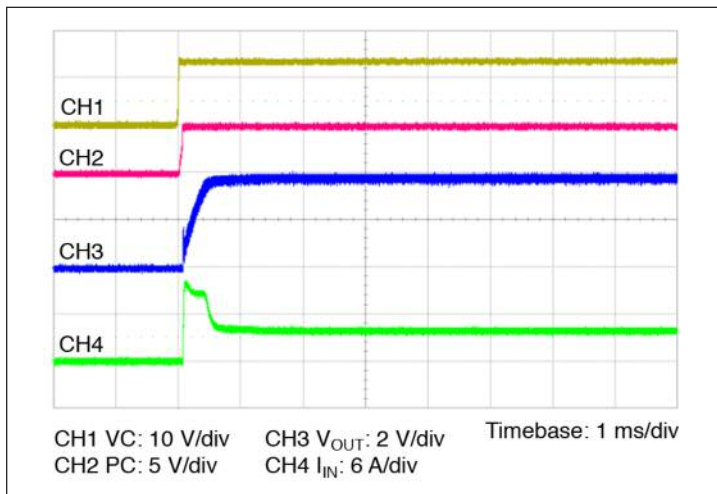

Figure 11 — Start up from application of VC;
- Stand-alone operation (VC applied after V_{IN}): In this case the VTM output will begin to rise upon the application of the VC voltage (See Figure 11). The Adaptive Soft Start Circuit (See Section 11) may vary the output rate of rise in order to limit the inrush current to its maximum level. When starting into high capacitance, or a short, the output current will be limited for a maximum of 120 µsec. After this period, the Adaptive Soft Start Circuit will time out and the VTM module may shut down. No restart will be attempted until VC is re-applied or PC is toggled. The maximum output capacitance is limited to 9100 µF in this mode of operation to ensure a successful start.